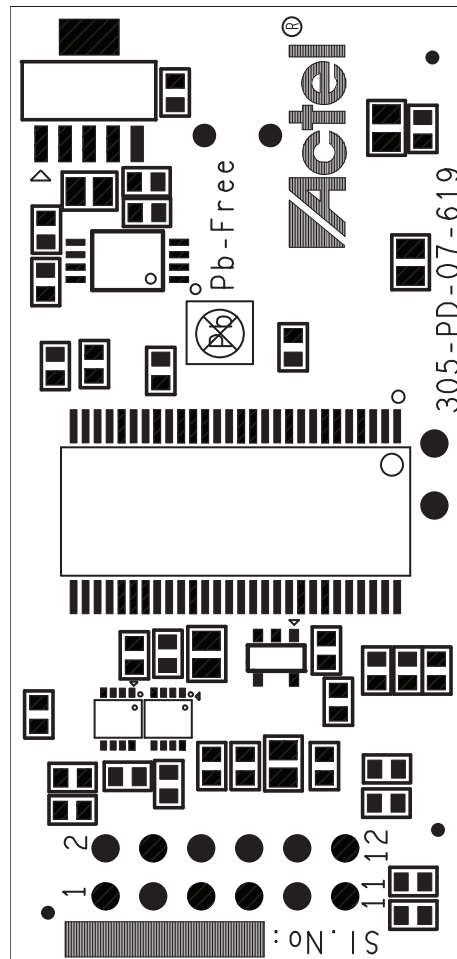

Figure 4-26 • Low-Cost Programming Stick – Bottom Silkscreen
1. Bottom signal layer (Figure 4-26 on page 47)